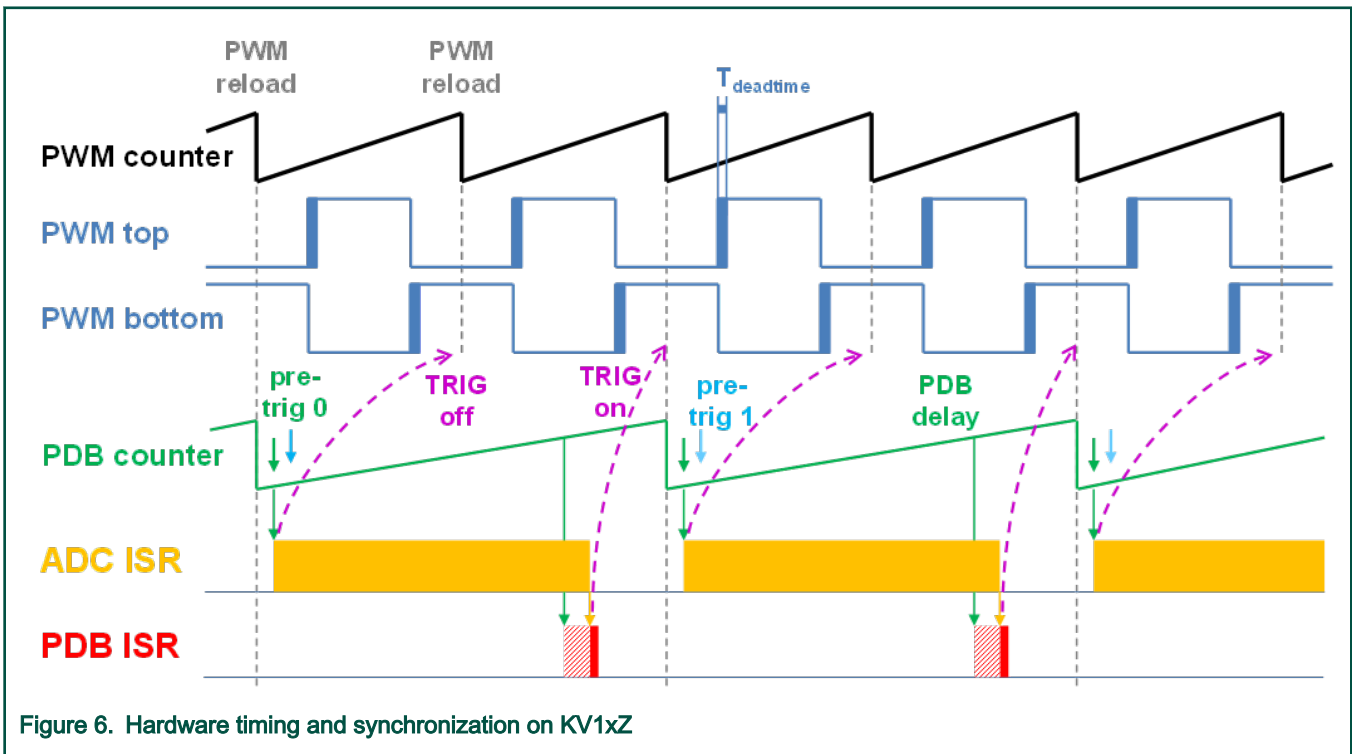

Figure 6. Hardware timing and synchronization on KV1xZ
Correct and precise timing is crucial for motor-control applications. Therefore, the motor-control-dedicated peripherals take care of the timing and synchronization at the hardware layer. It is also possible to set the PWM frequency as a multiple of the ADC interrupt (FOC fast control loop execution) frequency and thus lower the CPU load at the cost of longer sampling period. The **FOCfreq = PWMfreq** configuration is used by default. The low-priority synchronous tasks are executed in a slow loop interrupt generated via FTM. The timing diagram is shown in Figure 6.
- The top signal (**PWM counter** in Figure 6) shows the FTM counter value and its reloads (marked as **PWM reload** events). The FTM generates the **PWM top** and **PWM bottom** signals with a PWMfreq frequency. The $T_{deadtime}$ is inserted to avoid the DC-bus shoot-through. The PDB is triggered (its counter is reset) by the **FTM_TRIG** signal, which is generated together with the **PWM reload** event.
- The fast control loop interrupt (**ADC ISR** in Figure 6) is triggered when the conversion is complete.
- The PDB Sequence Error and PDB Delay interrupts have a common interrupt vector. Which event generated the interrupt is determined at the beginning of the interrupt (**PDB ISR** in Figure 6) based on the ERR flag.